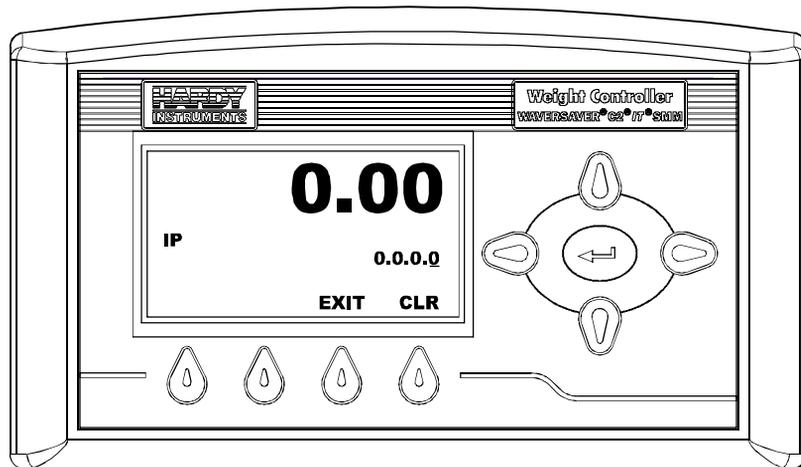

FIG. 111 IP MENU
- Press the Enter button. The IP Menu appears. (See Fig. 111)